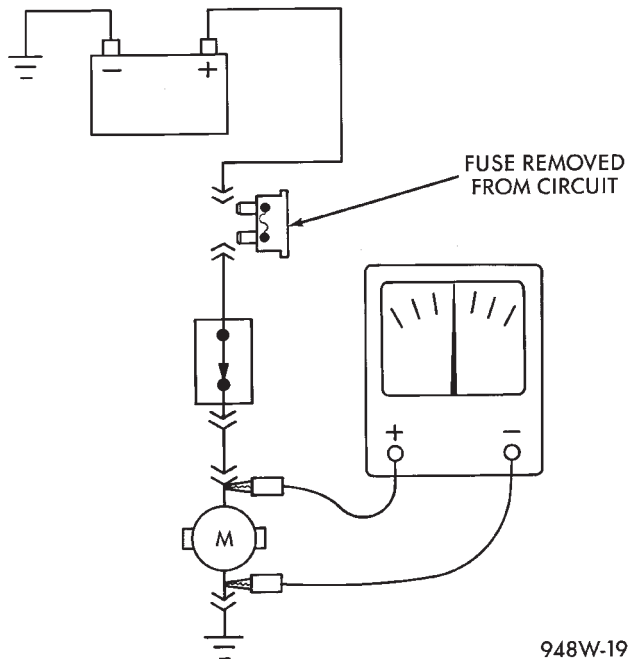

Fig. 8 Testing for Continuity
- (1) Remove the fuse for the circuit being checked or, disconnect the battery.
- (2) Connect one lead of the ohmmeter to one side of the circuit being tested (Fig. 8).
- (3) Connect the other lead to the other end of the circuit being tested. Low or no resistance means good continuity.